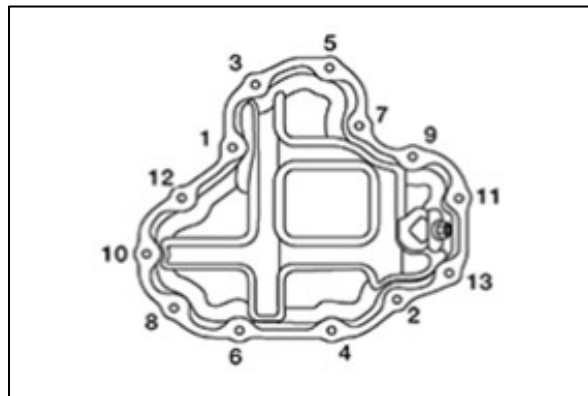

Figure 15
- Torque the lower engine oil pan bolts to specification using the sequence in Figure 15.